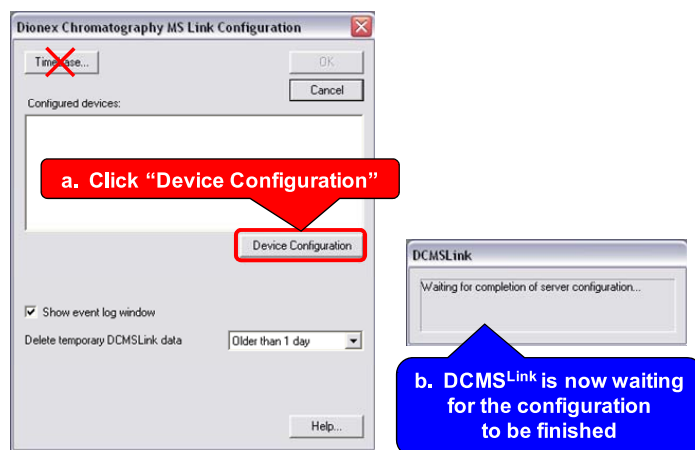
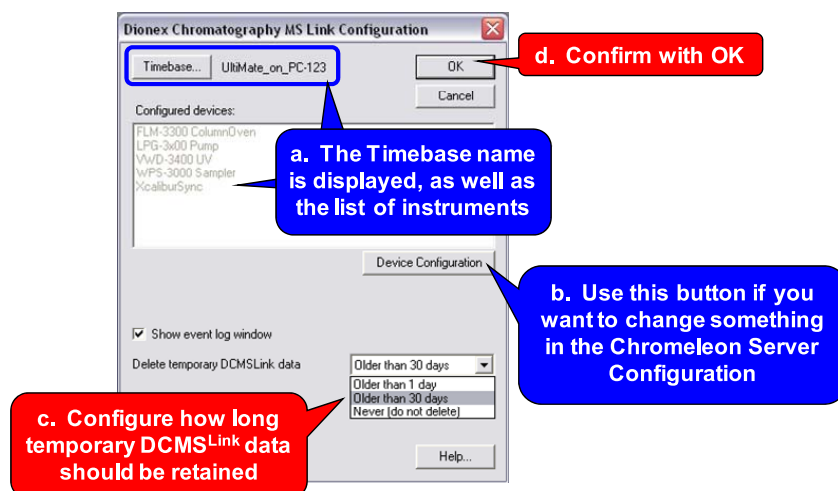

Fig. 4 Launching the Chromeleon Server Configuration
Fig. 11 DCMS^{Link} configuration
4. In the **Configured Devices** list select **Dionex Chromatography MS Link**, Fig. 2d. Click **Configure** (Fig. 2e) to open the Dionex Chromatography MS Link Configuration dialog (Fig. 4). (Shortcut: double-click on **Dionex Chromatography MS Link** in the list on the right).
6. The **Dionex Chromatography MS Link Configuration** dialog opens, Fig. 4. (Do NOT click on the “Timebase...” button at this point, because a Timebase has to be configured first.)
13. This takes you back to the **Dionex Chromatography MS Link Configuration** dialog, Fig. 4 and Fig. 11.